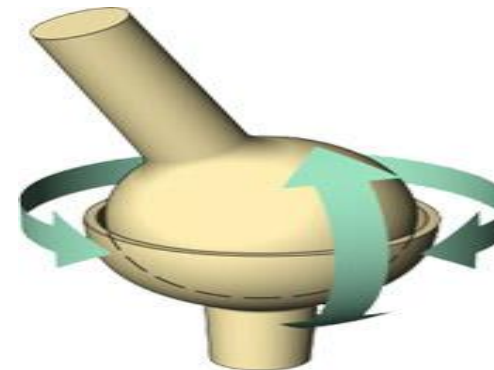

Figure 4
- Joint classification: Lower pair joint (Spherical), Figure 4.